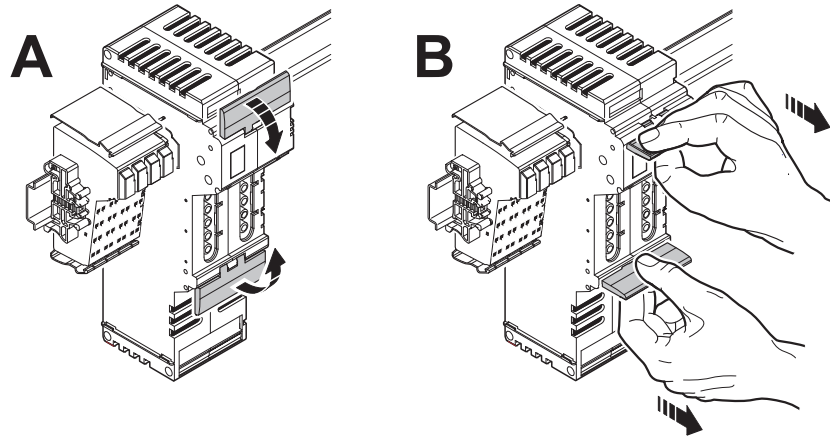

Figure 10-16 Removing a power-level terminal
When removing a terminal, proceed as shown in Figure 10-16:
- Lift the release flaps towards the center of the power-level terminal (Figure 10-16, detail A).